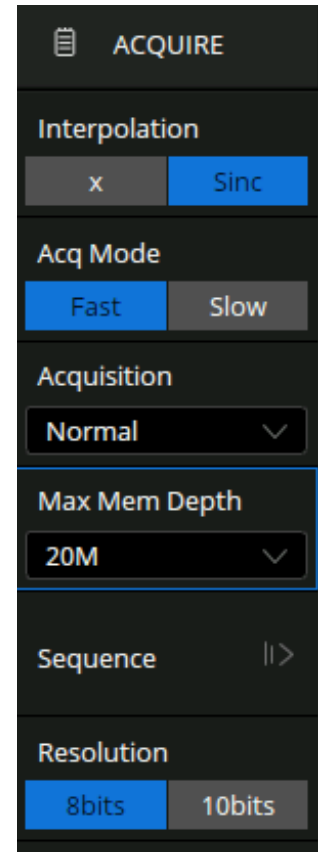

Figure 4.1 Acquire Menu
- the **Acquire** menu shown in figure 4.1 will be displayed.